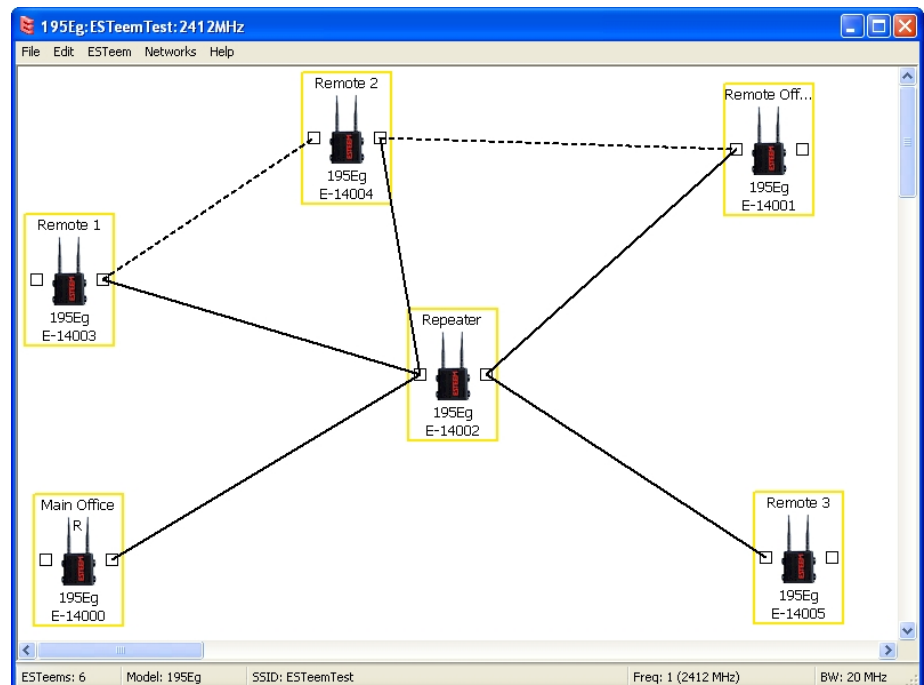

Figure 17: Mesh Network Configuration
2. Move the ESTeem 195E icons on the screen to simulate the layout of the diagram. Draw connection lines between the primary wireless links modems in the same order as the network layout (Figure 17).
indicating a backup link in the repeater Mesh configuration (Figure 17). For detailed instruction on Mesh network configuration, refer to Chapter 7 of this User's Manual.